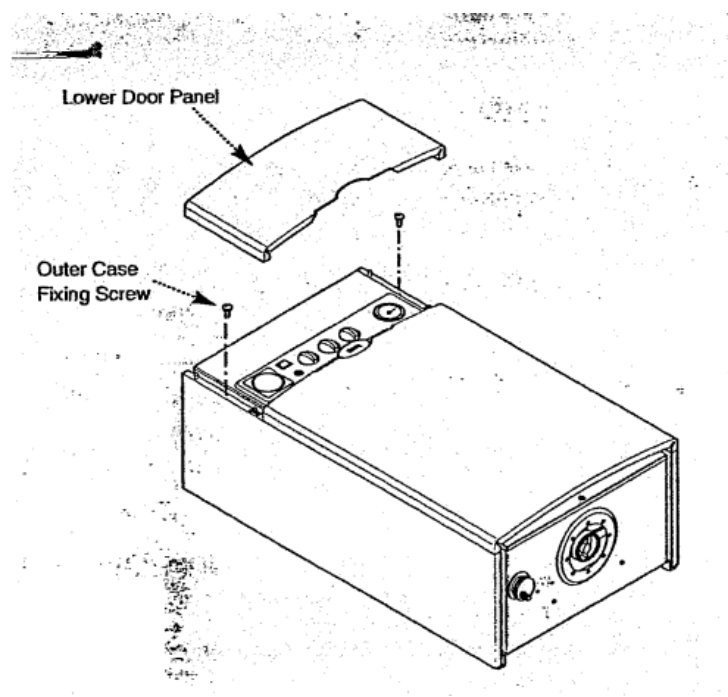
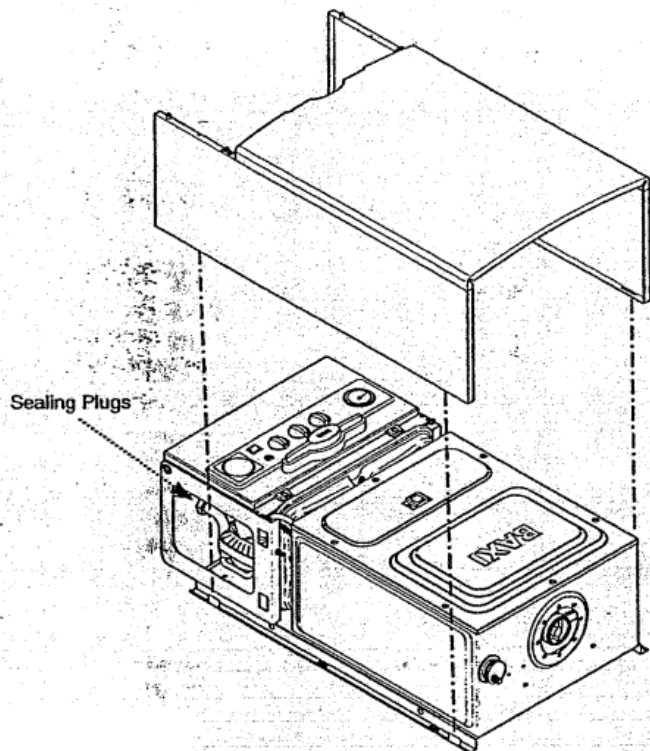

Fig.15
Fig. 16
- 2 Remove the lower door panel by gripping its sides and pulling off (Fig. 15).
3. Remove the outer case fixing screws (Fig. 15). Slide the outercase upwards to disengage the hooks on the backplate and remove (Fig. 16)
4. Remove the sealing plugs from the copper bends (Fig. 16).